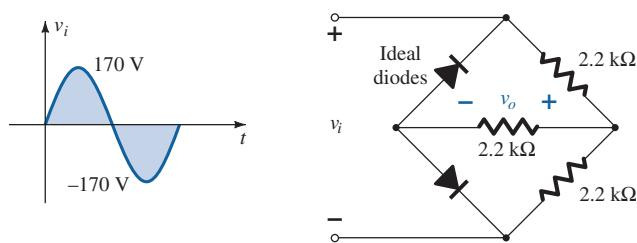

FIG. 175
*31. Sketch v_o for the network of Fig. 175 and determine the dc voltage available.